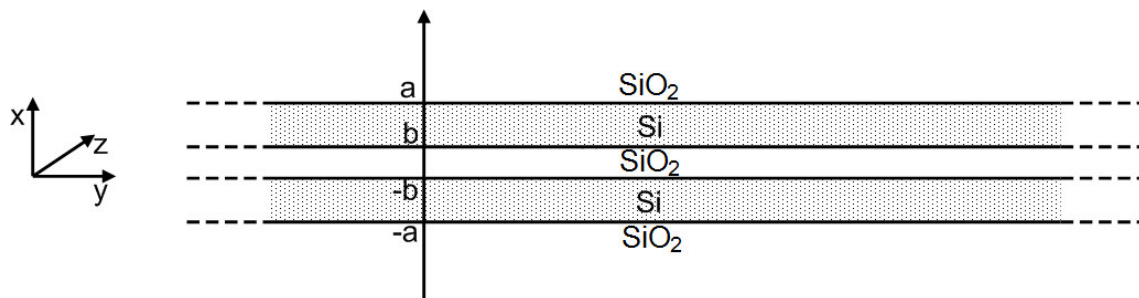

Figure 3: Slot waveguide made of silicon and silica.
- c) How does the $\underline{E}_x(x)$ profile of the fundamental TM mode change if you open a narrow silica slot in the center of the slab (see Fig. 3)? Note that narrow slot means $|b| \ll |a|$. A qualitative sketch is sufficient; no quantitative analysis is needed.
Solution: If the slot is small enough, then a large electric field propagates within the slot due to the field enhancement calculated in part b). Fig. 4 shows a numerical simulation showing a slot waveguide made of Si and surrounded by SiO₂. Note that the simulated slot waveguide is also confined in the y -direction. However, the \underline{E}_x component of the slab waveguide shown in Fig. 3 would look qualitatively like the mode profile shown in Fig. 4 (b).
Figure 4: Numerical simulation of a slot waveguide made of silicon and silicon dioxide. Part (a) shows the mode profile of the \underline{E}_x component and part (b) shows the \underline{E}_x component at the location $y = 0$, which would correspond qualitatively to the mode profile of a slab waveguide with a narrow slot in the middle, as depicted in Fig. 3.